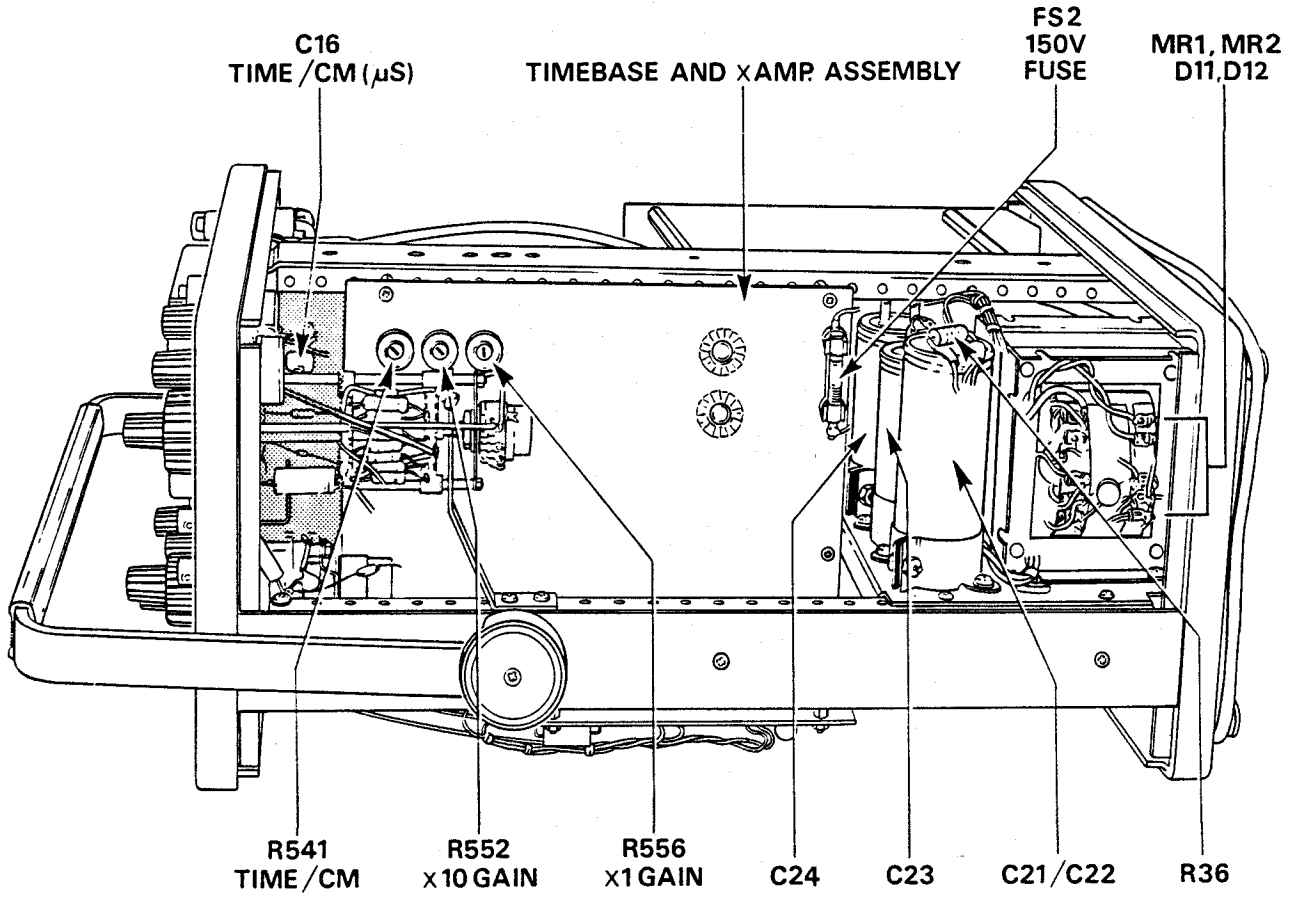
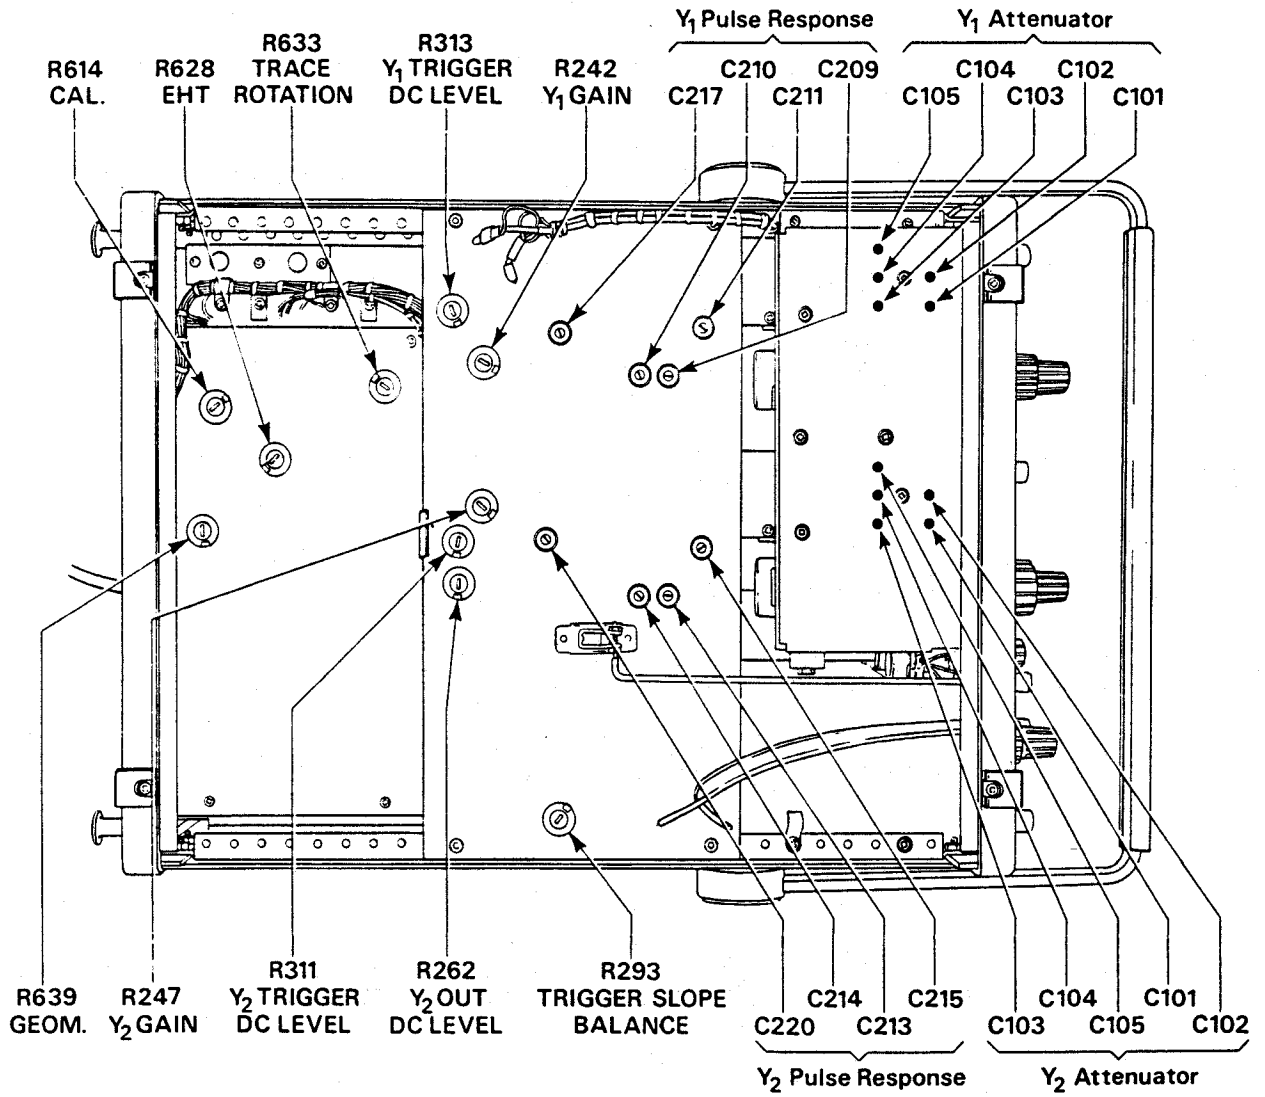

Fig. 2 Left-hand View
Fig. 3 Bottom View
4. Set all trimmers on the Y1 amplifier, trigger amplifier and Y output printed circuit boards to approximately mid position, except C217 and C220 (Fig. 3) which should be set to minimum capacitance.
5. Adjust C420 (Fig. 2) to extend the flat top of the second pulse towards the leading edge.
6. Adjust C217 (Fig. 2) to extend the flat portion towards the edge.
7. Set TIME/CM to 50 μ s and observing the second positive-going corner, adjust C421 (Fig. 3) to extend the flat portion towards the edge, giving priority to straightness even if a slope appears.
8. Adjust C411 (Fig. 2) to extend the flat portion towards the edge maintaining the straightness, then set Y1 VOLTS/CM VARIABLE to CAL and adjust the generator to give 7cm amplitude.
9. Adjust C211 (Fig. 3) to extend that flat portion towards the edge, then push in the PULL X10 control.
10. Re-adjust C420 and C421 (Fig. 2) if necessary, to remove any slope and to square the corner.
11. Set Y1 VOLTS/CM to 10mV and adjust the generator to obtain 7cm amplitude and adjust C209 (Fig. 3) for a square corner.
12. Set Y1 VOLTS/CM to 20mV and reset generator then adjust C210 (Fig. 3) for a square corner.
NOTE To increase frequency, apply Square Wave Generator on 5mV/cm range then adjust C411 (Fig. 2) to give some overshoot, then adjust C421 (Fig. 2) and C217 (Fig. 3) to give a square corner. Repeat (13). To reduce frequency, adjust C411 to give some undershoot, then adjust C421 and C217 for a square corner. Repeat (13).
(a) Adjust C220 (Fig. 3) to give a square corner.
(d) Adjust C215 (Fig. 3) to give a square corner
17. Set Y2 VOLTS/CM to 10mV and generator to obtain 7cm amplitude and then adjust C213 (Fig. 3) for a square corner.
18. Set Y2 VOLTS/CM to 20mV, then reset generator and adjust C214 (Fig. 3) for a square corner.
5. Set the Y1 input to ground and set the Y1 shift control to centre the trace, set the Y1 input to DC and adjust R262 (Fig. 3) to bring the trace to the centre.